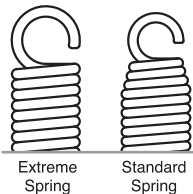

Fig.11
- To identify each Spring, check the shape of the Spring Coil End. The Standard Spring is tapered, and the Extreme Spring is not (Fig.11).